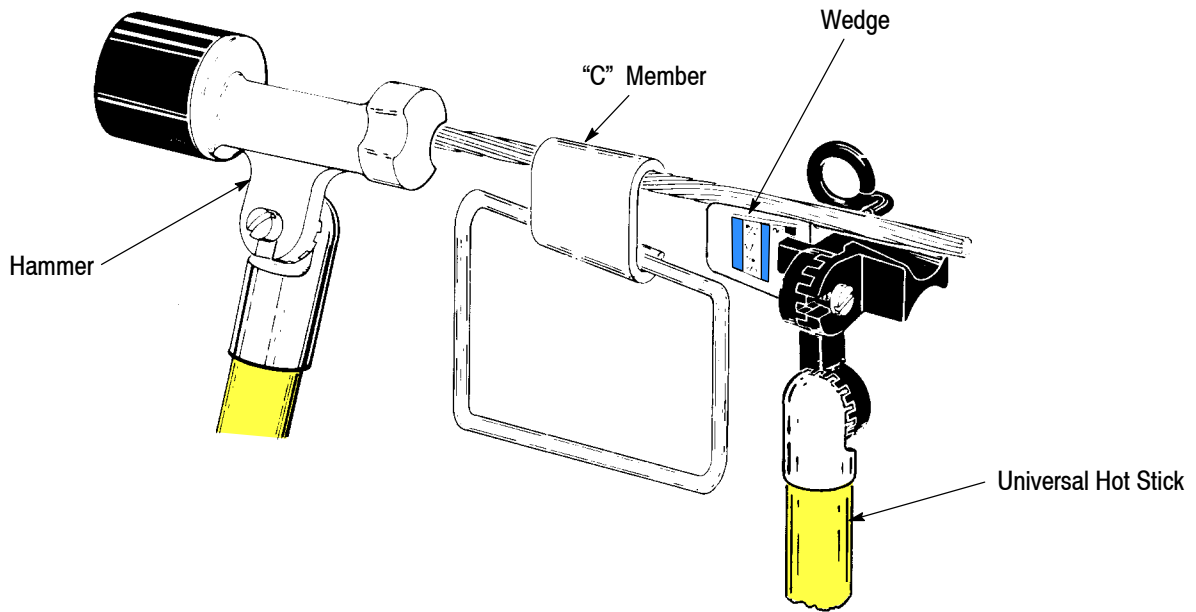

Figure 29
5. Use hammer to tap "C" member onto wedge. See Figure 29.